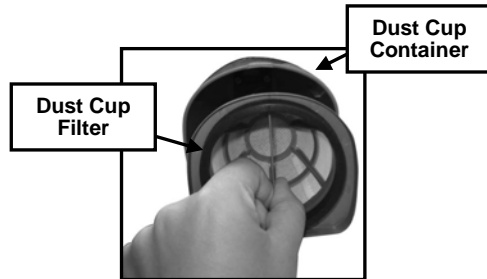

Fig. 9
2. Pull out the dust cup filter. (Fig. 9)